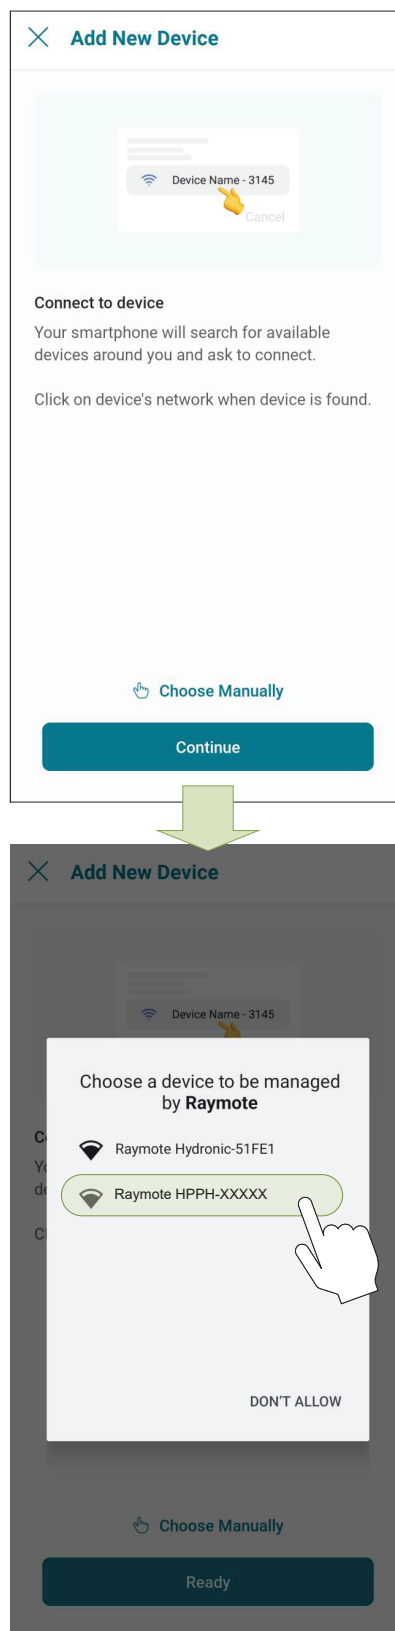

Figure 103. Connect with Android Smart Phone
5. **In Android:** Depending on your configuration, one or more devices will appear on the app. Select the HOTSPOT identifier that matches the unit's display as shown in Figure 103.